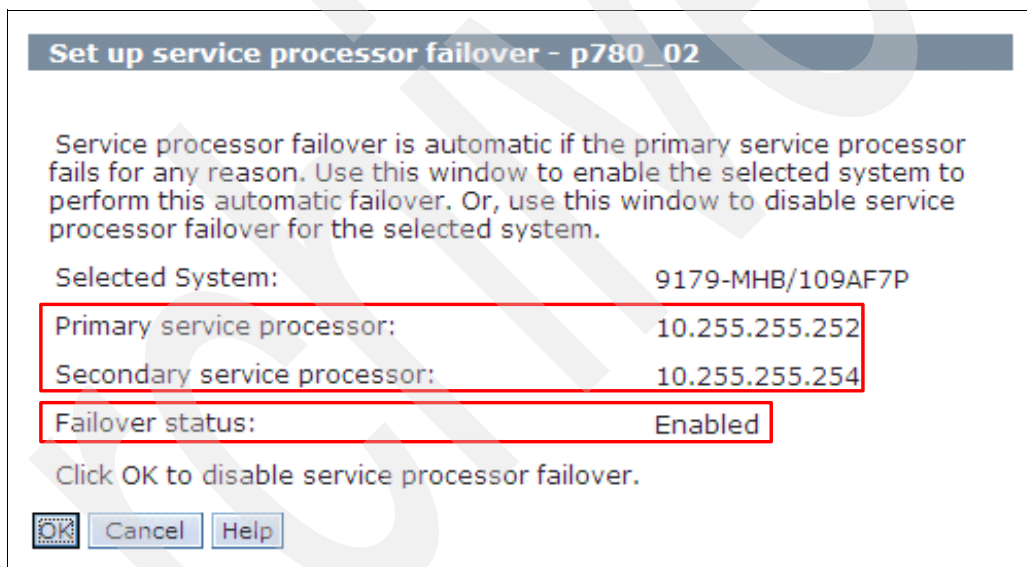

Figure 6-14 Service processor redundancy enabled
- ▶ You must configure the HMC with a redundant service network with both service processors. Refer to Figure 6-14 on page 203.